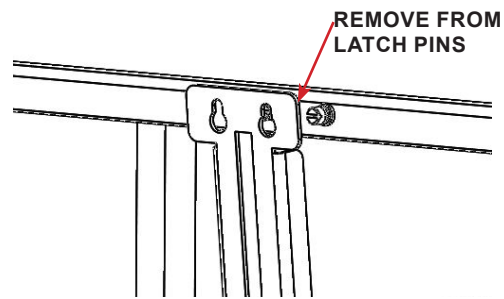

FIGURE 3.17 - Remove Latch Top
**STEP 3:** Once clear of the keyhole slot, pull the top of the latch bar clear of the center latch upper pins. See FIGURE 3.17